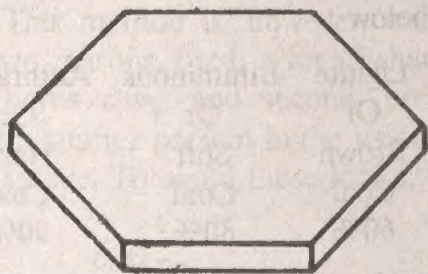

Fig. 1.5. Graphite crystal.
(2) It crystallizes in hexagonal plates. (Fig. 1.5).
(3) Its specific gravity is 2.5.
(4) It is resistant to the action of heat and melts above $3,700^{\circ}\text{C}$.
(5) It is a good conductor of heat and electricity.
(6) When heated in oxygen (or air), graphite burns to form carbon dioxide only.